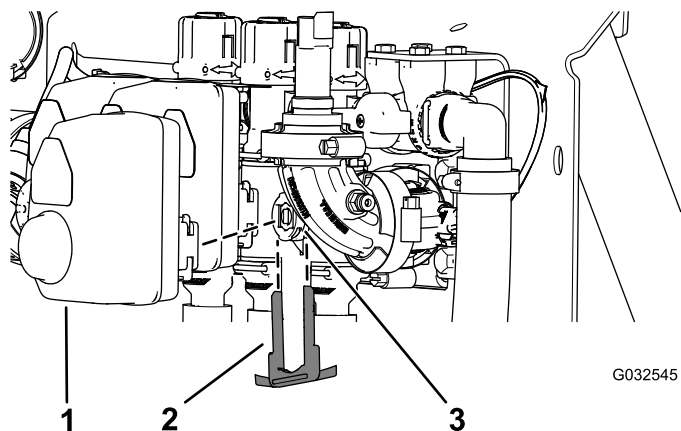

Figure 96
2. Remove the retainer that secures the actuator to the manifold valve for the section valve or agitation valve (Figure 96).